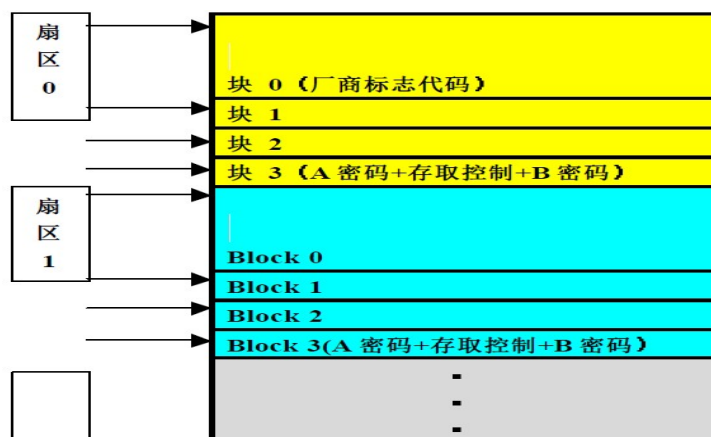

Figure 3.12 M1 card storage structure
- ① Before this operation, the label UID must be read once (entering the third layer), and after the operation error, the label UID must be read again;
- ② The input data format is hexadecimal;
- ③ Block 3 of each sector is the cipher area, which should be written carefully. As shown in Figure 3.12;
- ④ Block 0 of sector 0 is the manufacturer flag code. If you fill in 00 in the address column, a write error will occur. Then a startover from reading UID is needed after the error;
- ⑤ The block address must be within the label's actual memory address. The number of blocks has been set to 1 by default. One block (16bytes) is written at a time.